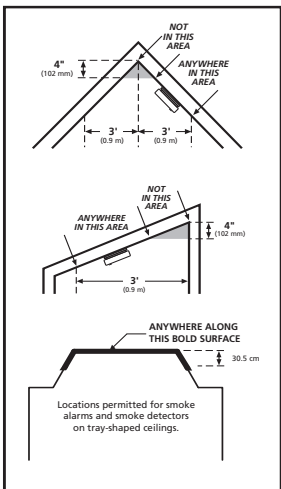

FIGURE 3
2. After selecting the proper smoke alarm location as described in Section 1, attach the mounting bracket to the ceiling as shown in figure 3. For wall mounting see figure 4. Place the mounting plate on the wall; be sure the "A" line is horizontal (parallel to the floor). Use the screws and anchors provided to secure the mounting bracket (use 3/16" drill bit for anchors).